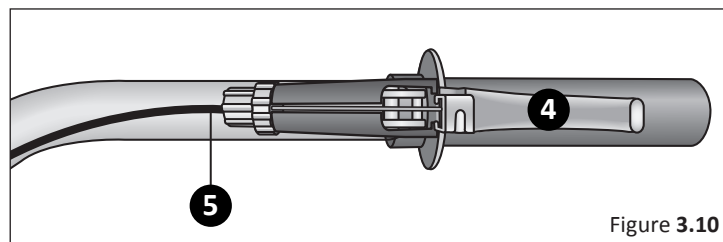

Figure 3.10
- 4** Release the brake lever. **Figure 3.10**